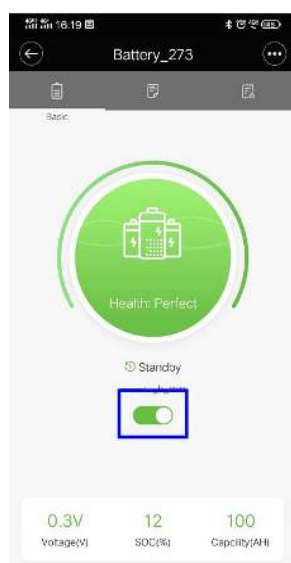

Figure 19: HAB iT Basic Screen Slider Switch
- On the HAB iT Basic screen flip the slider-like switch highlighted in blue shown in Figure 19: HAB iT Basic Screen Slider Switch. The status should change to "No charge or discharge."